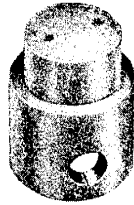

Fig. 6 — Binding Post Cap C
- The C binding post caps, Fig. 6, are for use on working posts of N, T, and 61-type cable terminals.